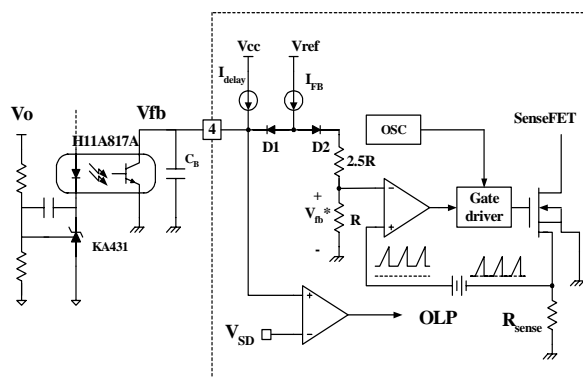

Figure 5. Pulse width modulation (PWM) circuit
**2. Feedback Control** : FSDM07652RB employs current mode control, as shown in Figure 5. An opto-coupler (such as the H11A817A) and shunt regulator (such as the KA431) are typically used to implement the feedback network. Comparing the feedback voltage with the voltage across the Rsense resistor plus an offset voltage makes it possible to control the switching duty cycle. When the reference pin voltage of the KA431 exceeds the internal reference voltage of 2.5V, the H11A817A LED current increases, thus pulling down the feedback voltage and reducing the duty cycle. This event typically happens when the input voltage is increased or the output load is decreased.
**2.1 Pulse-by-pulse current limit**: Because current mode control is employed, the peak current through the Sense FET is limited by the inverting input of PWM comparator (Vfb\*) as shown in Figure 5. Assuming that the 0.9mA current source flows only through the internal resistor (2.5R + R = 2.8 kΩ), the cathode voltage of diode D2 is about 2.5V. Since D1 is blocked when the feedback voltage (Vfb) exceeds 2.5V, the maximum voltage of the cathode of D2 is clamped at this voltage, thus clamping Vfb\*. Therefore, the peak value of the current through the Sense FET is limited.